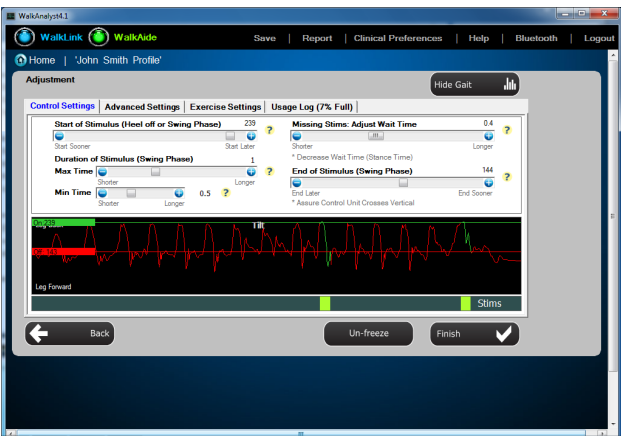

Figure 61: Tilt on threshold too high
- Example 1 - Tilt On Threshold is too high (Figure 61). Steps occur on the Tilt graph during which the peak does not reach the On Threshold and therefore stimulation does not occur. Lower the On Threshold to better match the Tilt data in the graph.